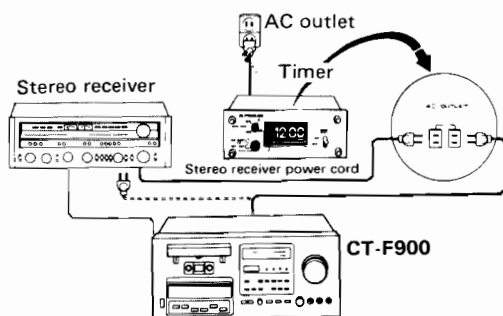

Fig. 7
1. As shown in Fig. 7 connect the CT-F900's power cord to the timer. At the same time connect the power cord of the stereo component (receiver, tuner, or amplifier, etc.) which is connected to the CT-F900 so that the power ON/OFF functions of that component are controlled by the timer.
1. As shown in Fig. 7, connect the CT-F900.